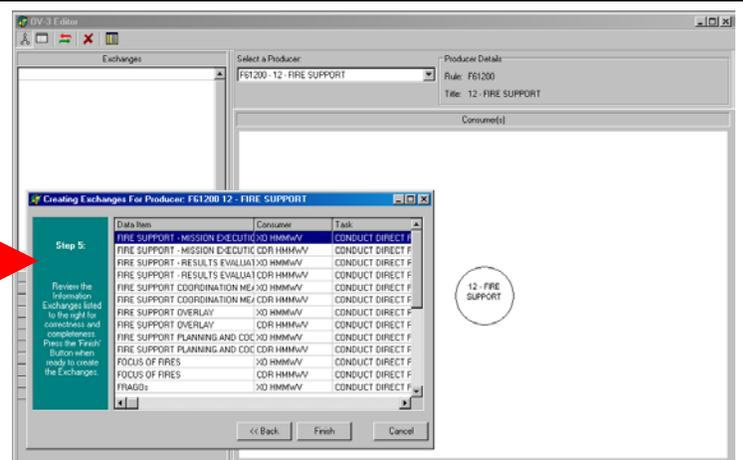

Figure 8: Exchange Wizard Step 5
STEP 5: (figure 8) The user can review and edit the Information Exchanges listed in the display box for correctness and completeness. By selecting the <Finish> button when ready, the user will create the actual entries for the OV-3 tables.